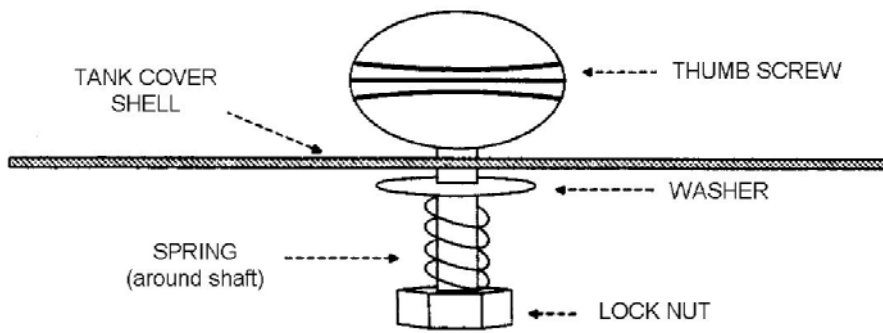

Figure 1
- Step 3: Tighten the lock nut until the end of the thumb screw is flush with the outside edge of the lock nut (see Figure 1). This will leave enough spring action to allow the thumb screw to be pulled and turned for opening and also to lock it in a closed position.